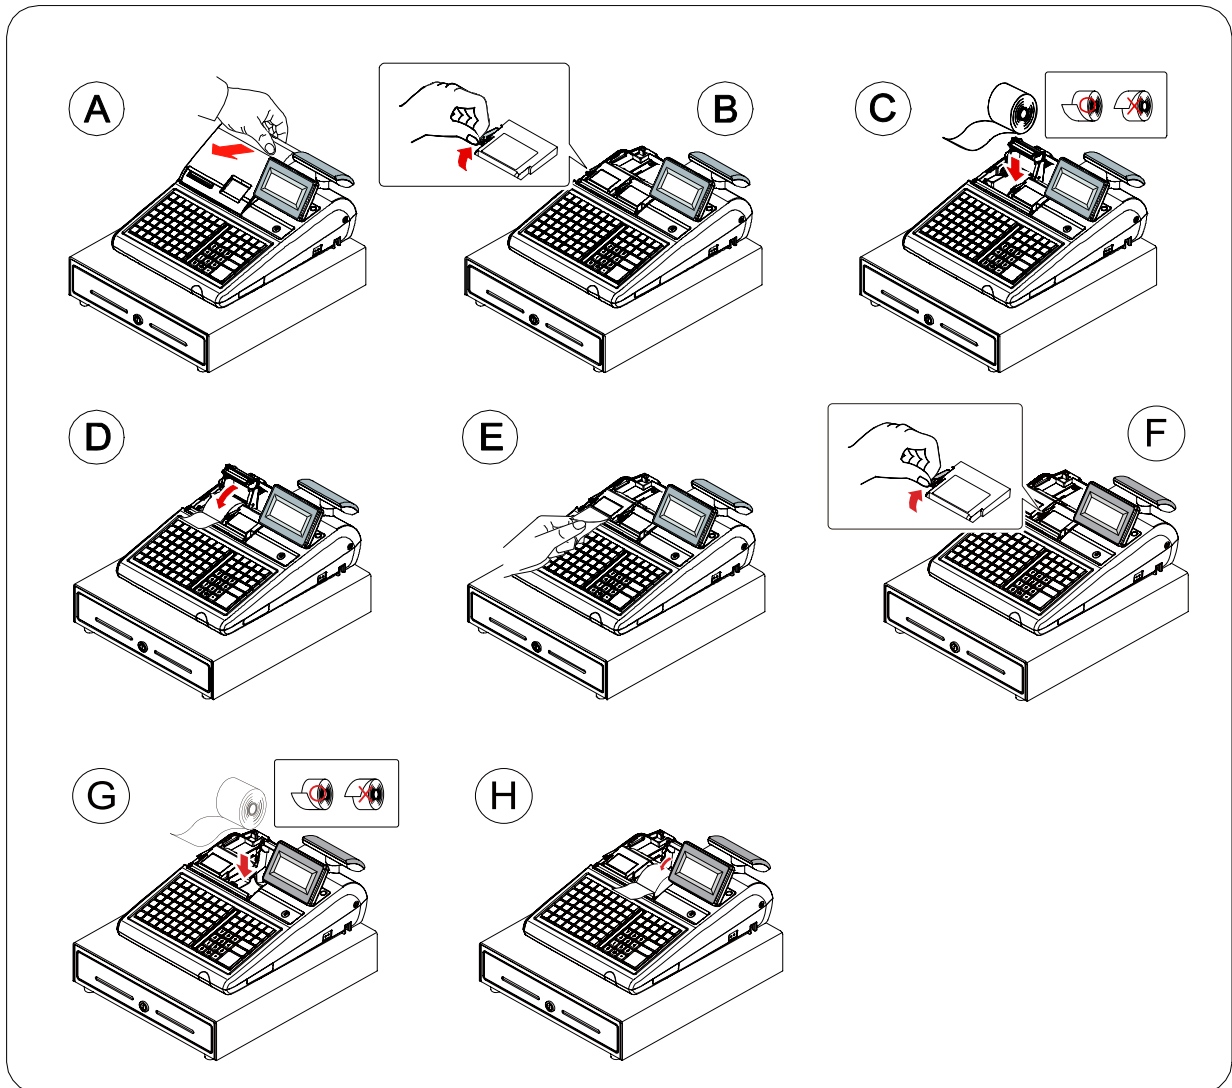

Figure 3-4 Paper Installation (2-Station)
1. Remove the cover printer.(Fig 3-4(A))
2. Push up the green lever toward and then lift up to open the receipt paper cover. (Fig 3-4(B))
3. Ensure that the paper is being fed from the bottom of the roll. (Fig 3-4(C))
4. Close the paper cover slowly until it locks firmly.(Fig 3-4(D))
Tear off the excess paper.(Fig 3-4(E))
6. Push up the green lever toward and then lift up to open the journal paper cover. (Fig 3-4(F))
7. Ensure that the paper is being fed from the bottom of the roll. (Fig 3-4(G))
8. Close the printer cover slowly until it locks firmly. (Fig 3-4(H))
5. Place the roll into the concave bottom of the PRINTER as shown in Figure3-4(G).
6. Put the leading edge of the paper over the PRINTER as shown in Figure3-4(H).